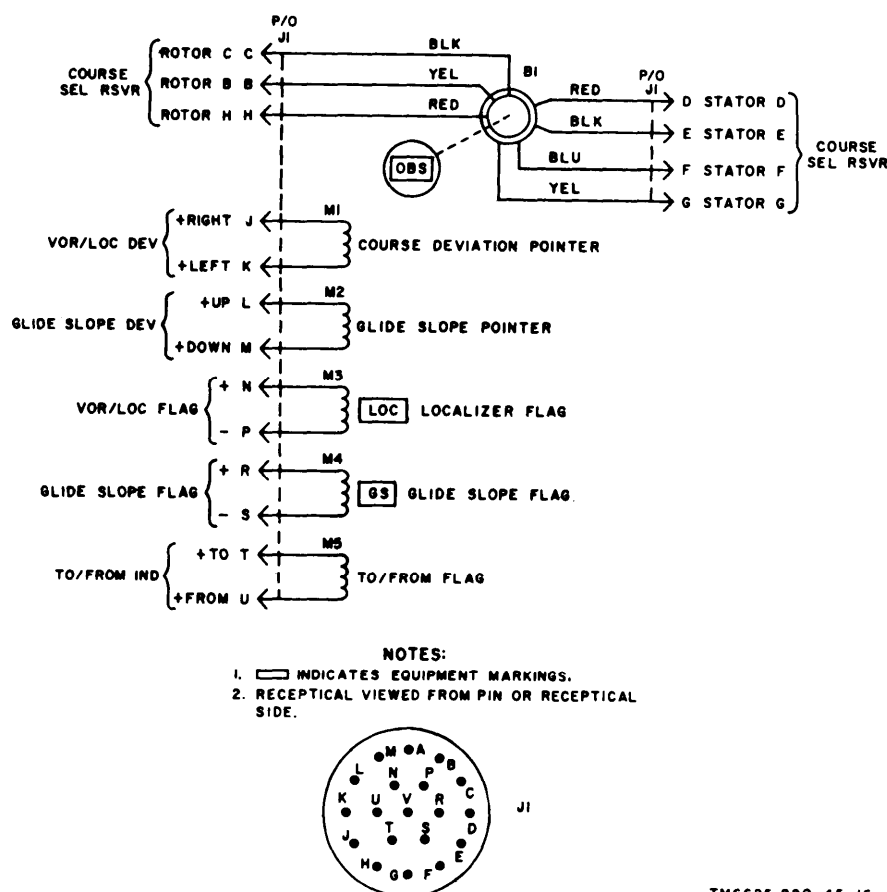

Figure 1-3. Indicator, Course ID-1347/ARN-82 or ID-1347A/ARN-82, schematic diagram.
a. BRG-OBS switch S2 determines which phase shifting circuit is used. When switch S2 is in the OBS position, the OBS resolver is used to produce the desired phase shift. The OBS indicator is the same type as used in an aircraft installation. The 30-cycle reference signal is applied to the rotor of the resolver in the OBS indicator. When the rotor is turned, the phase of the signal at stator output is shifted. A compass card is attached to the rotor, providing an indication of the number of degrees of phase shift. This voltage is routed to the radio receiver. For more information on the OBS indicator, refer to TM 11-5826-226-35 for Radio Receiving Sets AN/ARN-82 and AN/ARN-82A. A schematic diagram of the OBS indicator is shown in figure 1-3.
226-35 for Radio Receiving Sets AN/ARN-82 and AN/ARN-82A. A schematic diagram of the OBS indicator is shown in figure 1-3.